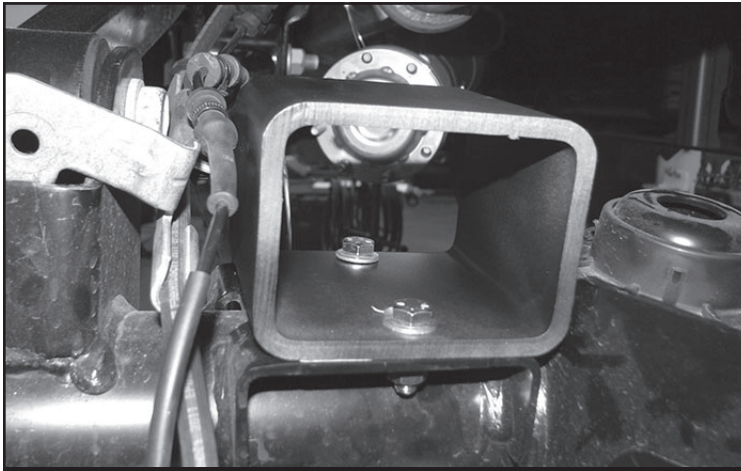

FIGURE 28 - STEP 30
30. Install the FT50724 (Rear bumpstop spacer) using the supplied 5/16" x 1" hardware. Torque to 25 ft-lbs **SEE FIGURE 28.**